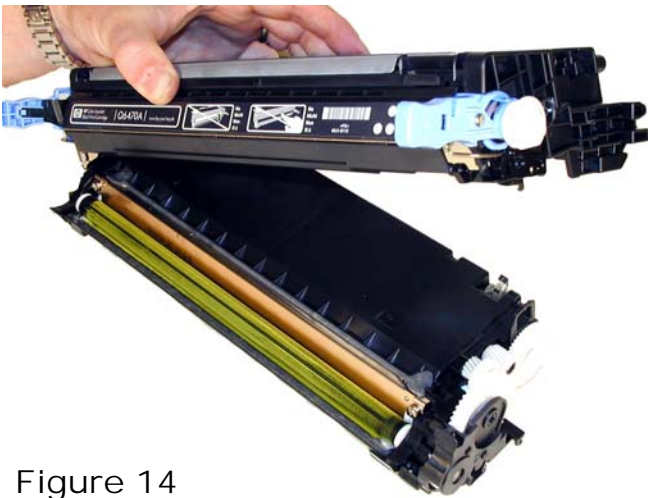

Figure 14
3) Separate the two halves. See **Figure 14**